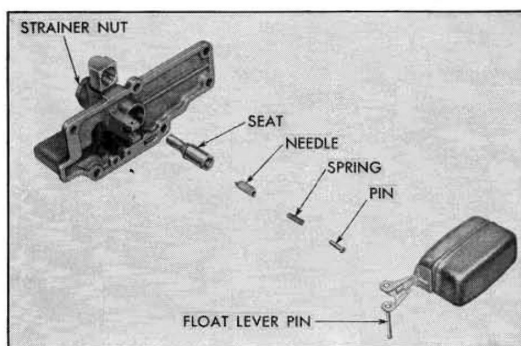

Fig. 6
12. Remove the float lever pin and float from the bowl cover, and the fuel control needle assembly. Remove strainer nut, gasket and strainer from cover (fig. 6).